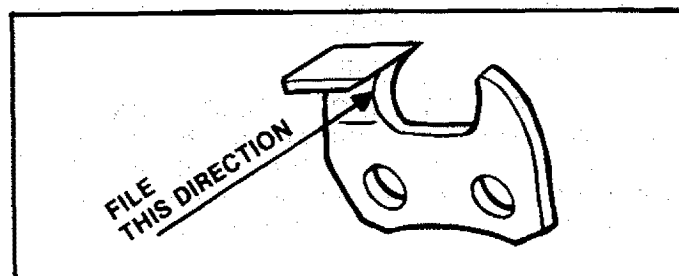

Figure 40
- c.) File from inside toward outside of cutter, straight across, in one direction only. Use 2 or 3 strokes per cutting edge. Figure 40.